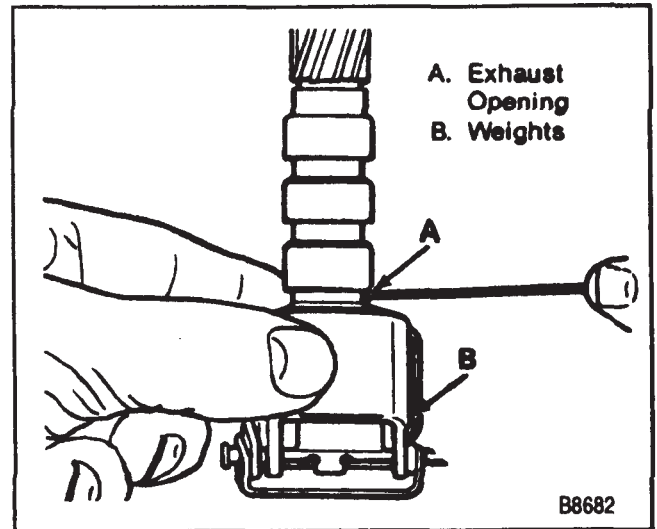

Figure 61—Measuring the Governor Valve Exhaust Opening
- Valve exhaust opening. With the weights held all the way inward, the opening should be 5.1 mm (0.020 in.) (figure 61).